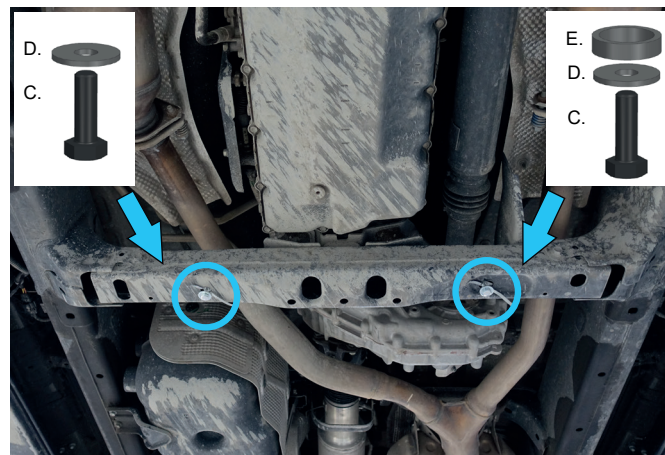

Fig. 2
2. Screw in bolts M8x25 (item C) together with washers 8 (item D) and bushing 6 (item E) for 2-3 turns, as shown in fig.2.